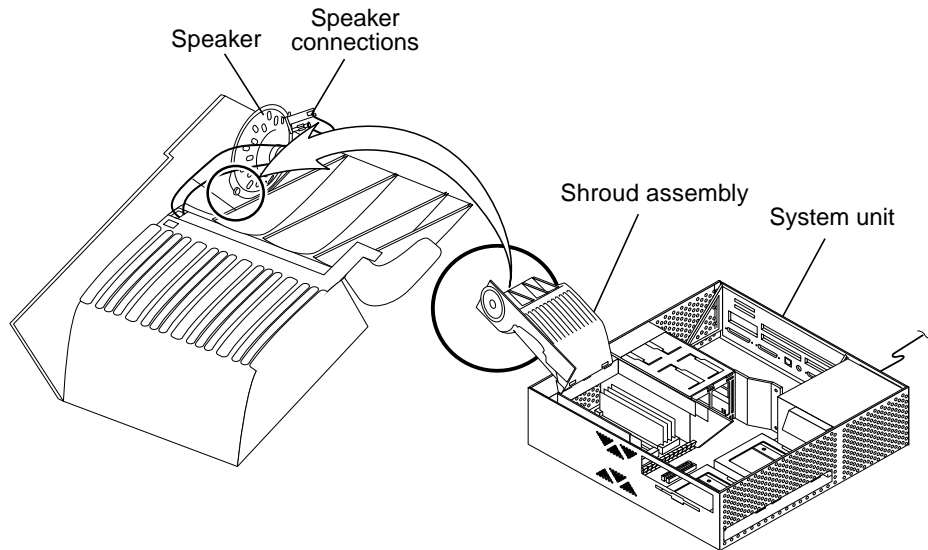

FIGURE 8-6 Removing and Replacing the Shroud Assembly Speaker
4. **Using a number 2 Phillips screwdriver, remove the screw securing the speaker to the shroud assembly (FIGURE 8-6).**
1. **Replace the shroud assembly as follows (FIGURE 8-6):**